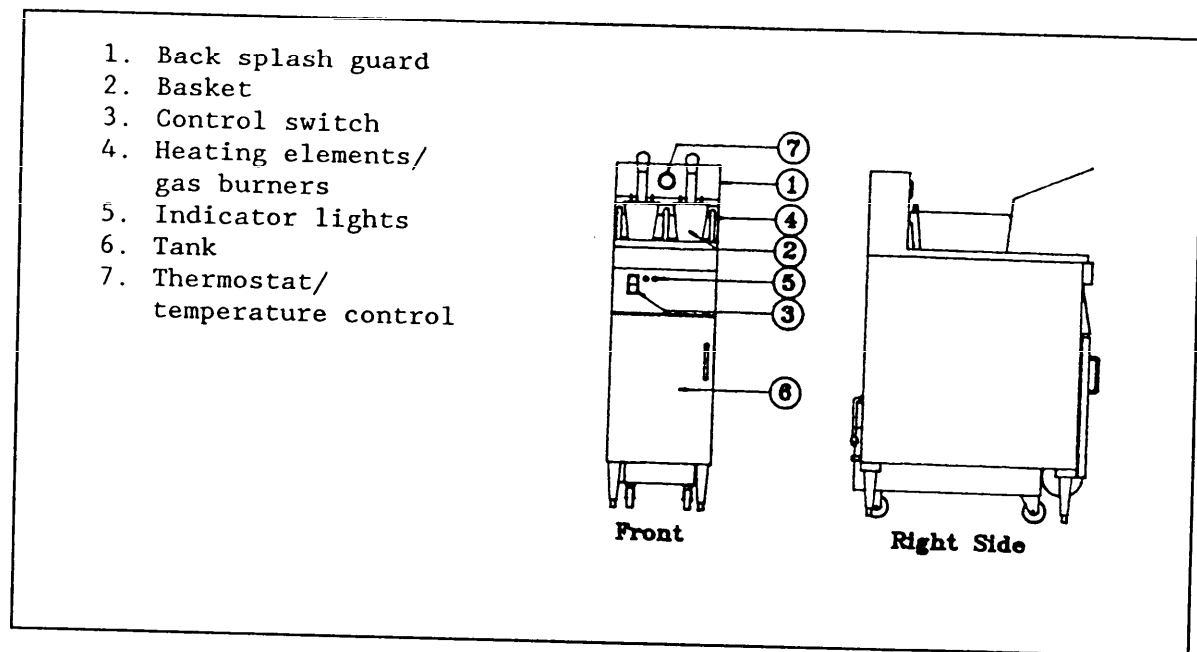

Figure 12
5.10.2 Major Fryer Components. Major fryer components include a high level thermostat, safety relief valve motor (pressure fryers only), thermopile, and the components shown on Figure 12.